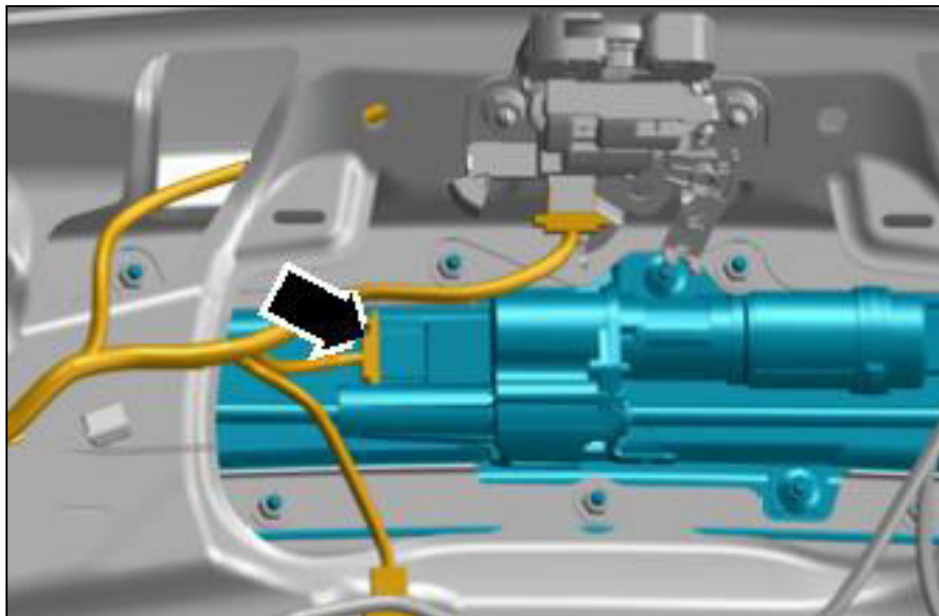

Fig. 3: Disconnect the electrical plug-in connection
10. Disconnect the electrical plug-in connections -arrow- of the drive motor (fig. 3).